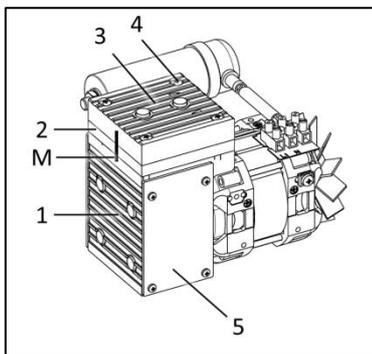

Fig. 29: One-headed pump (N 828 KNE)
1. Mark the position of the head plate (3), intermediate plate (2) and housing (1) relative to each other by a drawing line with a felt-tip marker (M, see Fig. 29). This helps avoid incorrect assembly later.
2. Undo the 4 screws (4) in the head plate (3) and lift the head plate with the intermediate plate off the pump housing.